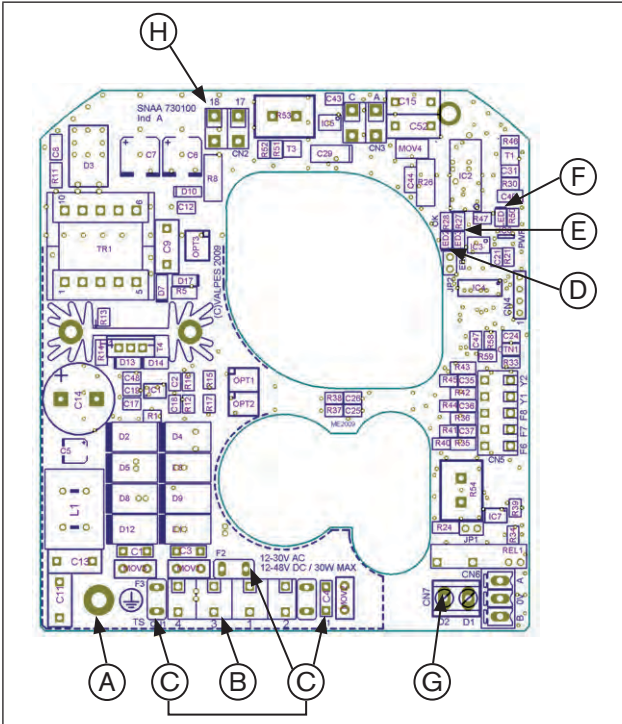
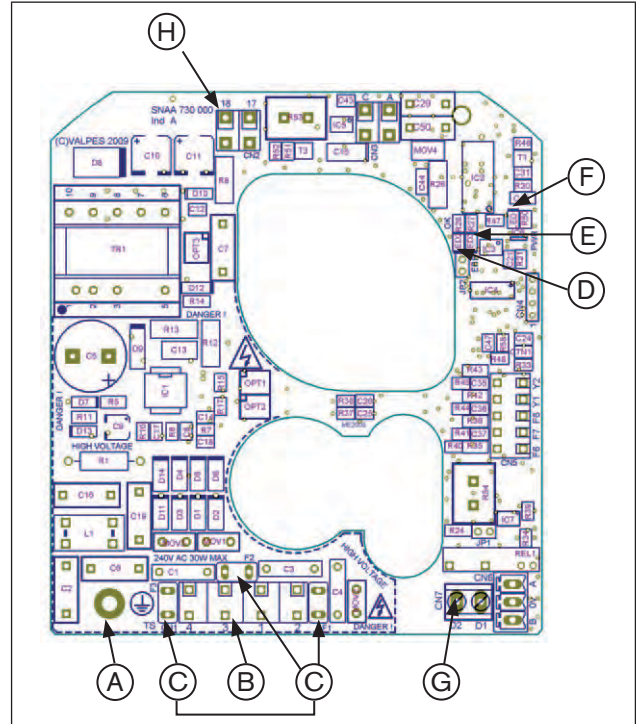
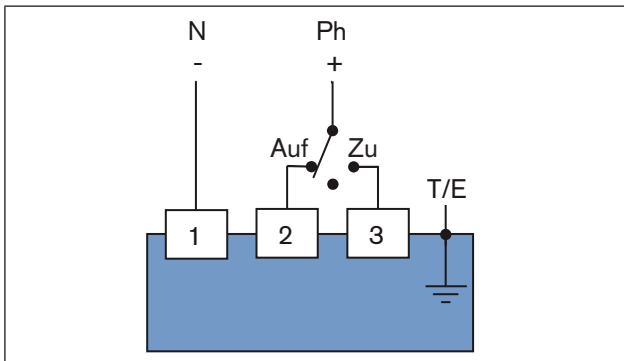
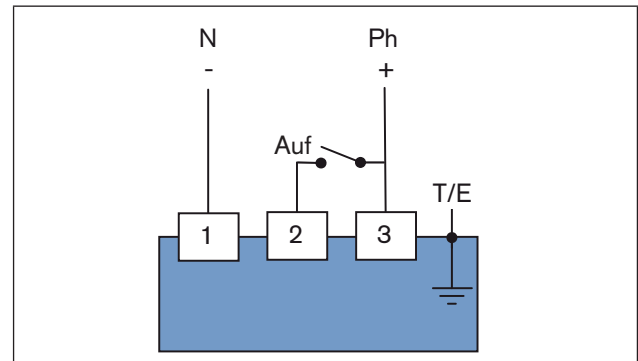

Figure 15: Power supply circuit board 15-30 V 50/60 Hz (12-48 V DC)
Figure 16: Power supply circuit board 100-240 V 50/60 Hz (100-350 V DC)
Figure 17: Three points mode
Figure 18: Open / Closed mode / Emergency current model
- To do this, loosen earthing screw and attach eyelet of the earthing cable with the earthing screw (see “Figure 15” and “Figure 16”).
- Connect cable according to the required control type (see “Figure 17” and “Figure 18”) to the terminal strip Pos. B of the power supply card (see “Figure 15” and “Figure 16”).
**Operating principle for Open / Closed mode (see “Figure 18”) :**